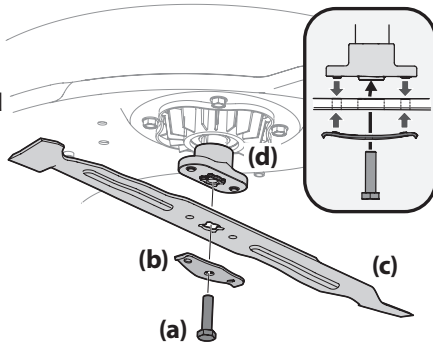

Figure 22
3. Remove the hex screw (a) and the blade bell support (b) which holds the blade (c) and the blade adapter (d) to the deck motor. See Figure 22.
4. Remove blade (c) and adapter (d) from the deck motor spindle. See Figure 22.